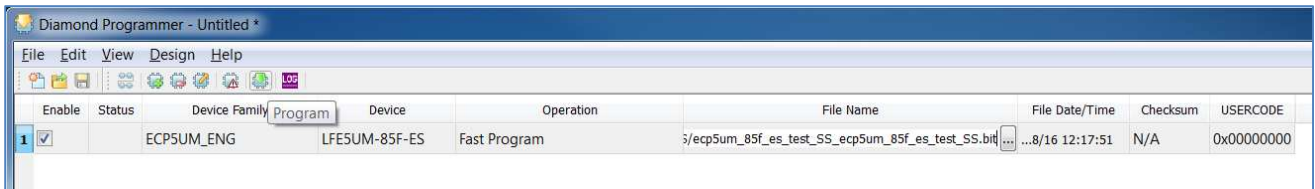

Figure 5.8. Program Icon
- To start programming the device, click the **Program** icon  shown in Figure 5.8.